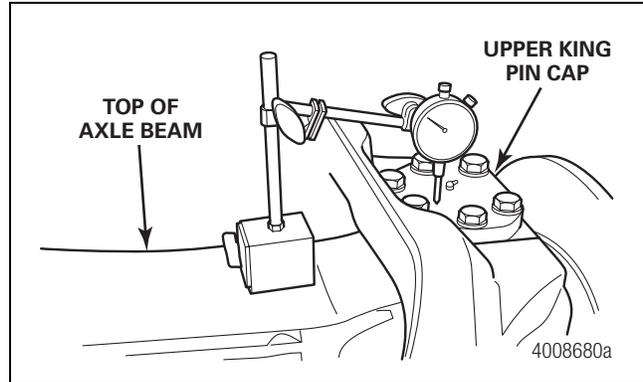

Figure 10.14
- D. Place a jack and a wood block, with a hole that allows clearance for the lower grease fitting, under the lower king pin cap area. Figure 10.14.
4. The reading must be less than 0.025-inch (0.64 mm). Figure 10.14. Add or remove shims from between the lower knuckle cap/steering arm and the housing to obtain the correct end play.